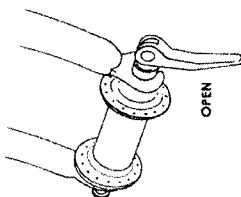

Fig 7b
1. Move the quick-release lever so that it curves away from the wheel (Fig. 7b). This is the OPEN position.
4. Move the quick-release lever to the OPEN position (Fig. 7b).
5. Tighten the quick-release adjusting nut until it is finger tight against the frame dropout; then swing the lever toward the front of the bike until it is parallel to the frame's chainstay or seatstay and is curved toward the wheel (fig. 7b). To apply enough clamping force, you should have to wrap your fingers around a frame tube for leverage, and the lever should leave a clear imprint in the palm of your hand.